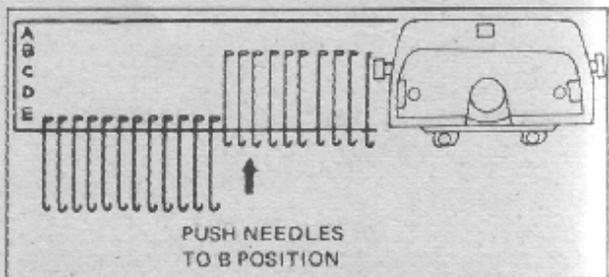

Fig. 1
4. Repeat step (2).
5. Push the needles continuing to knit to B position. (Fig. 1)